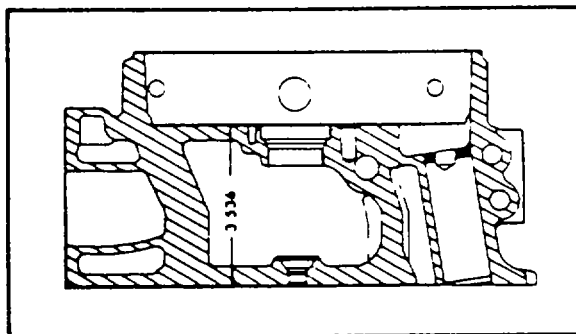

**Figure 4-12. Checking Fire Deck of Cylinder Head.**
- (4) Refer to figure 4-12 and inspect cylinder head fire deck for flatness.